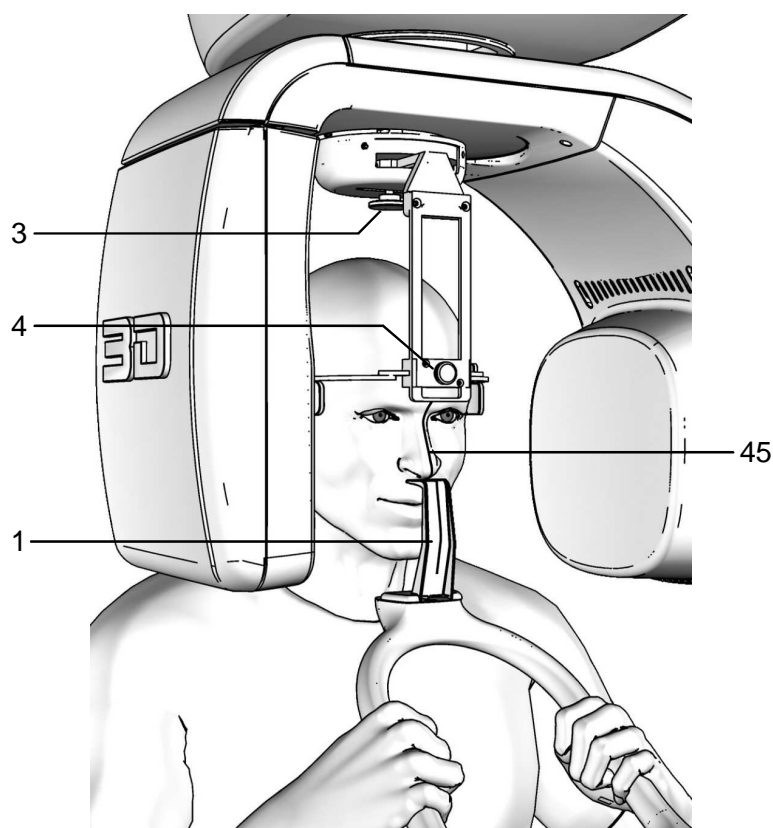

Figure 16 – TMJ closed mouth positioning
4. Verify that the temple clamp device is in the central position (Figure 10), and if necessary move it using the appropriate control on the top of the support (Figure 16).
5. Place the patient in temple clamp by placing the chin on the surface of the relevant support (Figure 16); the hands should rest on the front handgrips.
8. Press the key "Centring devices ON" (14)  .
Using the laser of the midsagittal plane as a reference only, place the patient's head so that the beam falls on the corresponding anatomical reference (Figure 16).
9. Place the temple clamp in contact with the patient's head by means of the appropriate knob (Figure 16).
10. Press the key "Patient Entrance" (7)  to confirm the